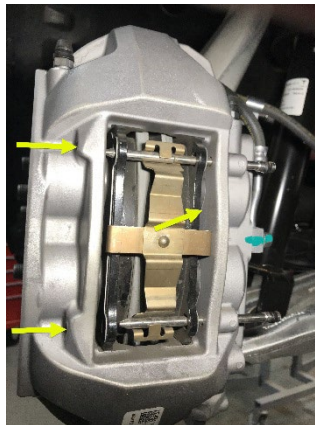

Figure 6 (Model 3 shown, other models similar)
8. Use the appropriate pin punch to remove the retaining pins and anti-rattle spring from the front LH caliper (Figure 6).